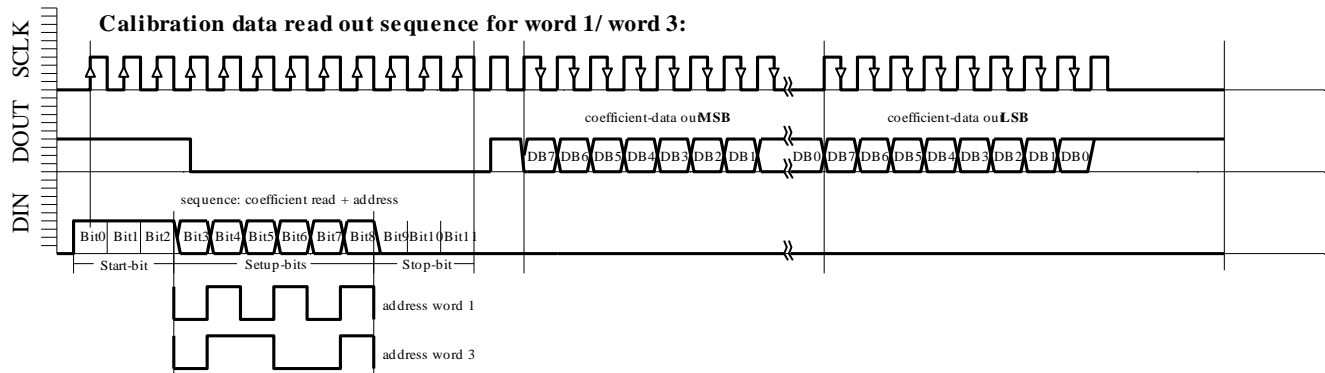

Fig. 6c: Word1, Word3 READING sequence
- ✦ Calibration data read-out sequence for Word1 (Figure 6c)
- ✦ Calibration data read-out sequence for Word3 (Figure 6c)